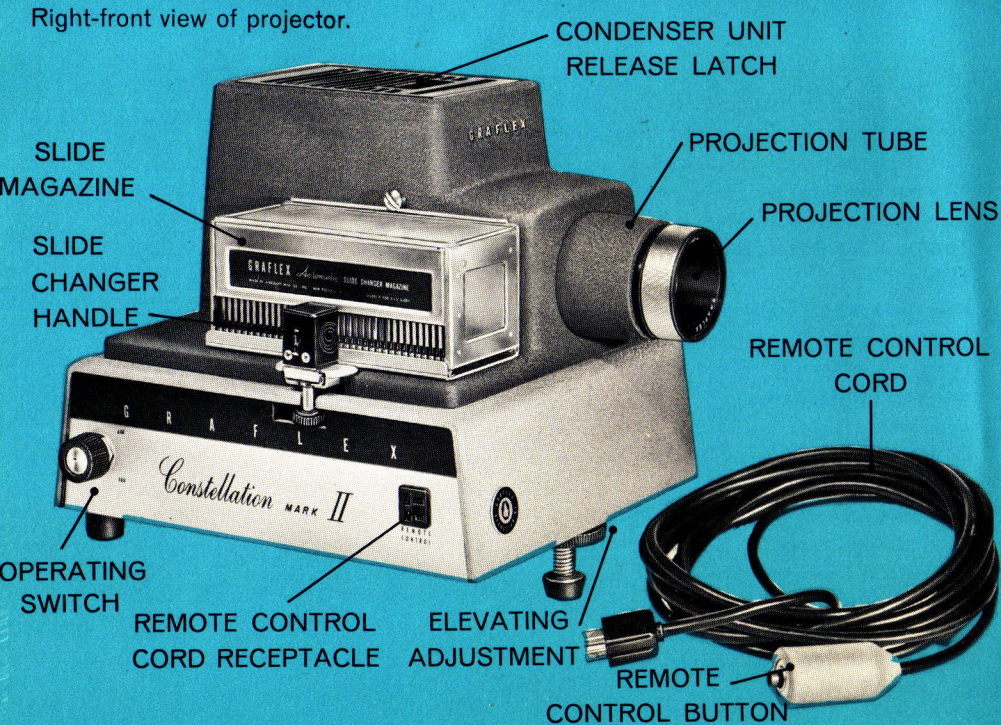
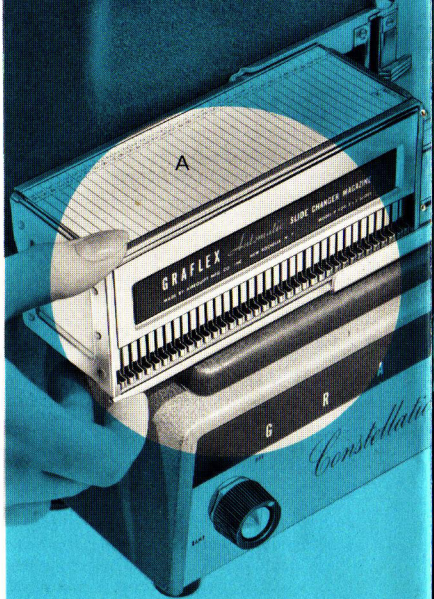

FIG. 1
FIG. 7
Pull the slide changer handle (see Fig. 1) out as far as it will go. Insert a magazine into the slide entrance of the changer with the white index card on top of the magazine as shown in Fig. 7, Page 10.
Each magazine is provided with an index card (A) (Fig. 7) under an acetate cover.
2. Hold magazine as pictured in Fig. 7 with index card on top and all slide frames touching right side of magazine.